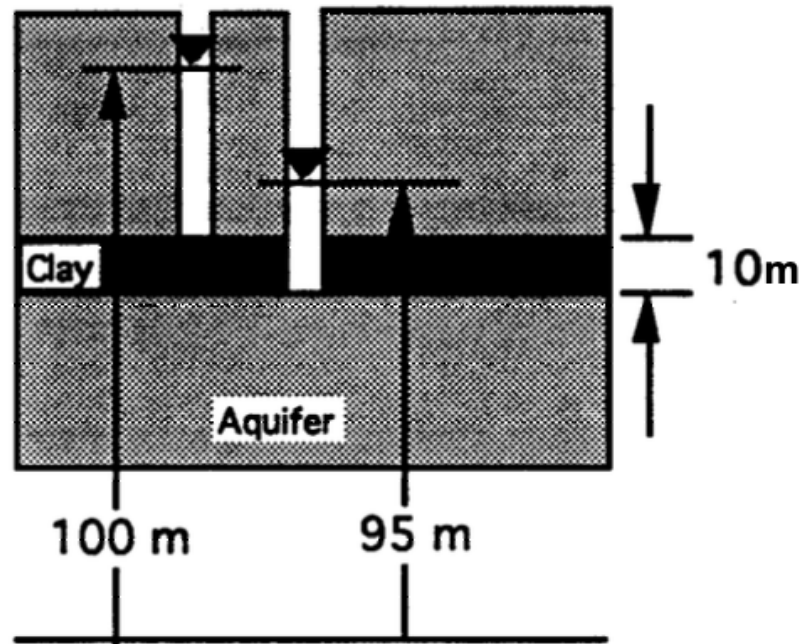

Figure 3: Elevation View of an Aquifer
3. Figure 3 is a profile (elevation) view of an aquifer system.